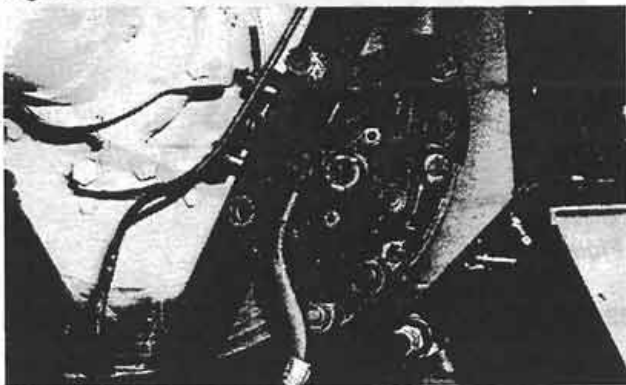

Figure 29:
14. Install the brake assembly with through bolts and hangers (Fig. 29), and ensure that the plunger, spring and retainer plate are fitted to the brake bar.